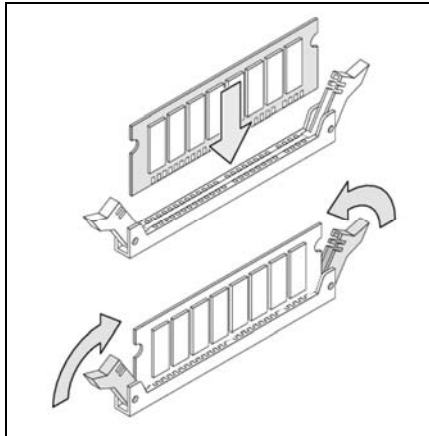

Figure A-6. Inserting a DIMM Module
7. Slowly insert the new DIMM by sliding the end with the metal fingers into the DIMM socket (see Figure A-6). Stop sliding when the DIMMM is securely seated in the socket.